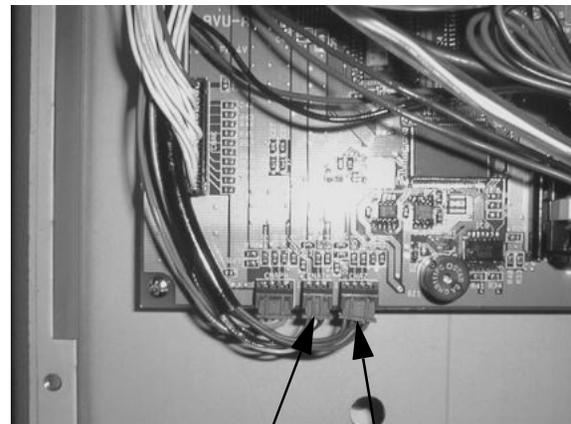

FIGURE 10-2
II. Remove magnet sensor connector(A) from A board. Fig.10-2.
II. Remove S board connector(G) from A board. Fig 10-2.